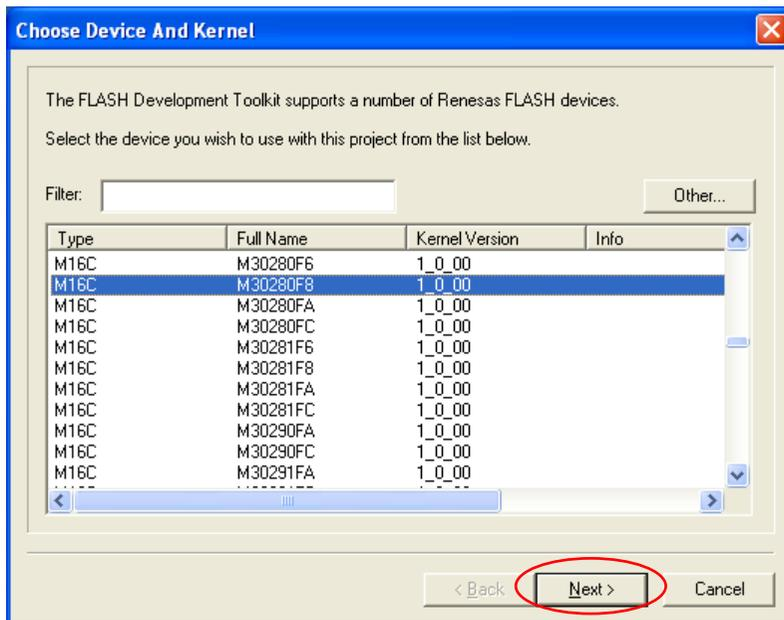

Figure 72
20. Select **M30280F8** then 'Next' (Figure 72).